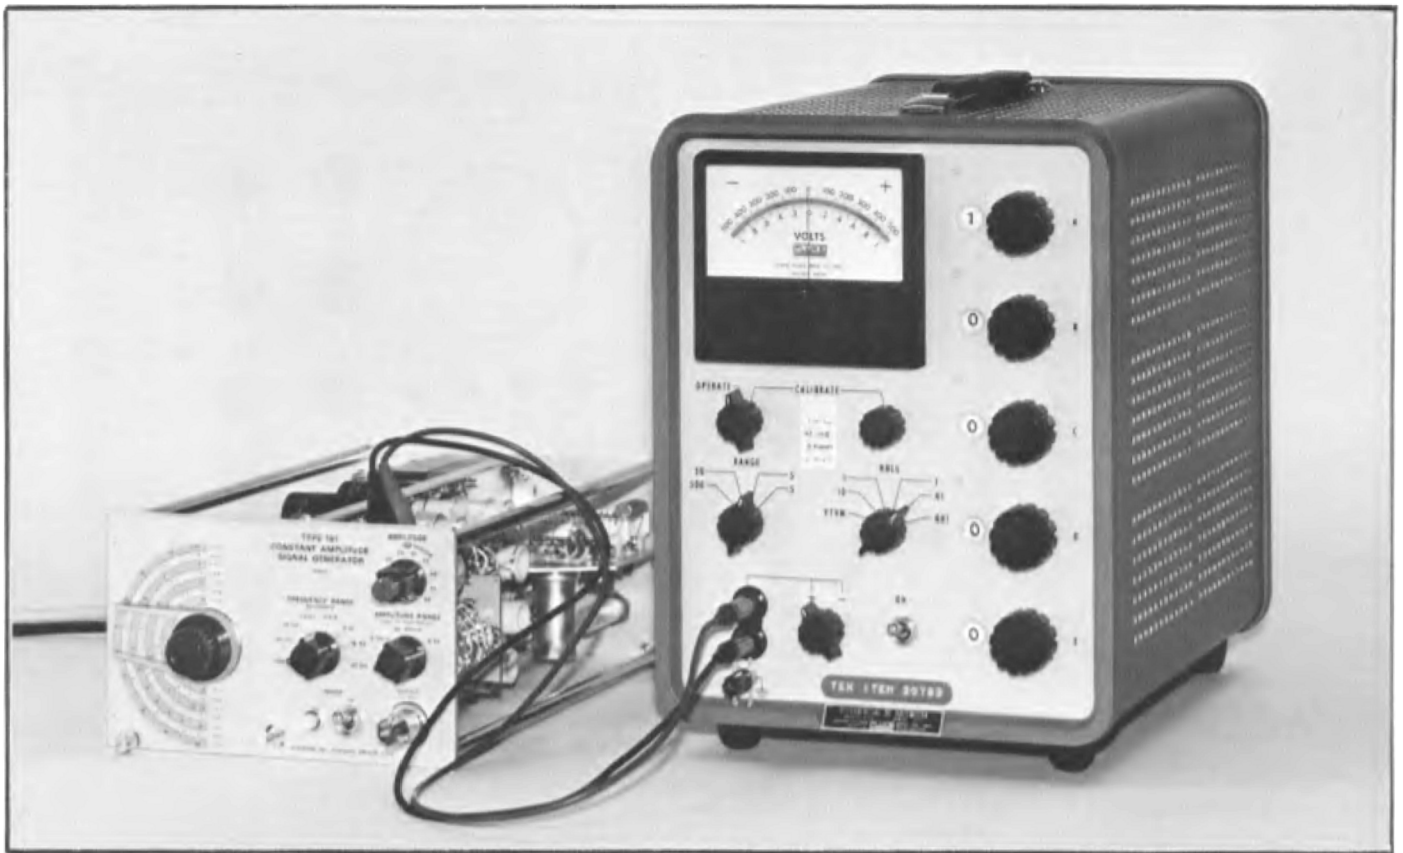

Fig. 6-9. Test equipment setup for step 6.
- a. Test equipment setup is shown in Fig. 6-9.